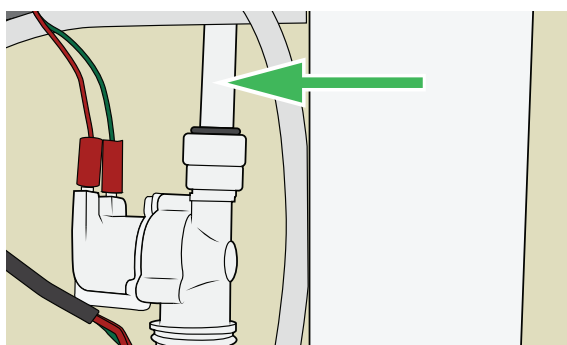

Figure 81
17. Attach the PEX pipe to shower function. See Figure 81.